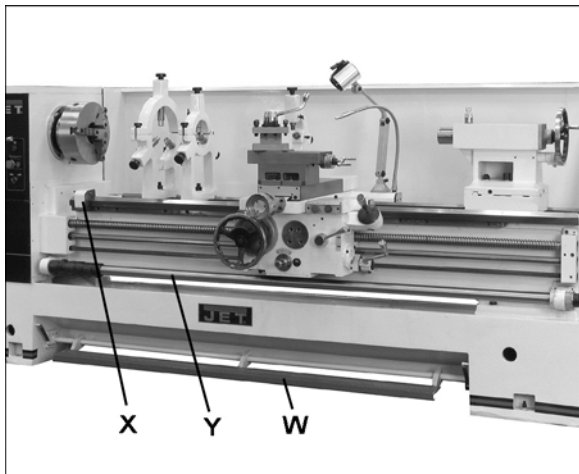

Figure 28 – Other controls
19. **Foot Brake (W, Figure 28):** For emergency shutdown of all lathe functions. The connecting rod mechanism is in the bed stand, and activates a brake strap at the main motor. (**Caution:** Lathe still has power.)
20. **Manual Carriage Stop (X, Figure 28):** Can be used during manual feed operation to limit carriage travel. *NOTE: It is not intended to stop the carriage during automatic feed.* The carriage stop can be repositioned along the bed by loosening the two screws underneath the stop.
21. **Travel Setting Rod (Y, Figure 28):** Up to six pre-set configurations are possible for repetitive operations, without having to reposition the stops each time. Use the knurled knob at the right end of the rod to set the rod at one of six positions shown on the dial. Then move the desired number of eccentric stops into position for that particular operation and tighten them securely to the rod with the screws beneath them. When the apron trip lever contacts a stop, the clutch will disengage.